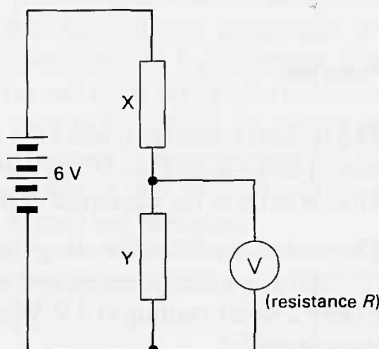

Figure B70
- 23(R)** In the circuit shown in figure B70, resistors X and Y are connected to a 6 V battery which has negligible internal resistance. A voltmeter which has resistance  $R$  is connected across Y.